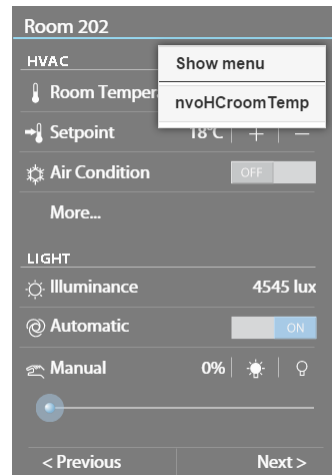

Figure 262: Data Point Context Menu
- **Context menu for data points:** If this checkbox is enabled, you can click with your right mouse button on a control to view data point details. A context menu is displayed listing the attached data points (see Figure 262). Select the name of the data point for which you want to inspect the properties as shown in Figure 263.